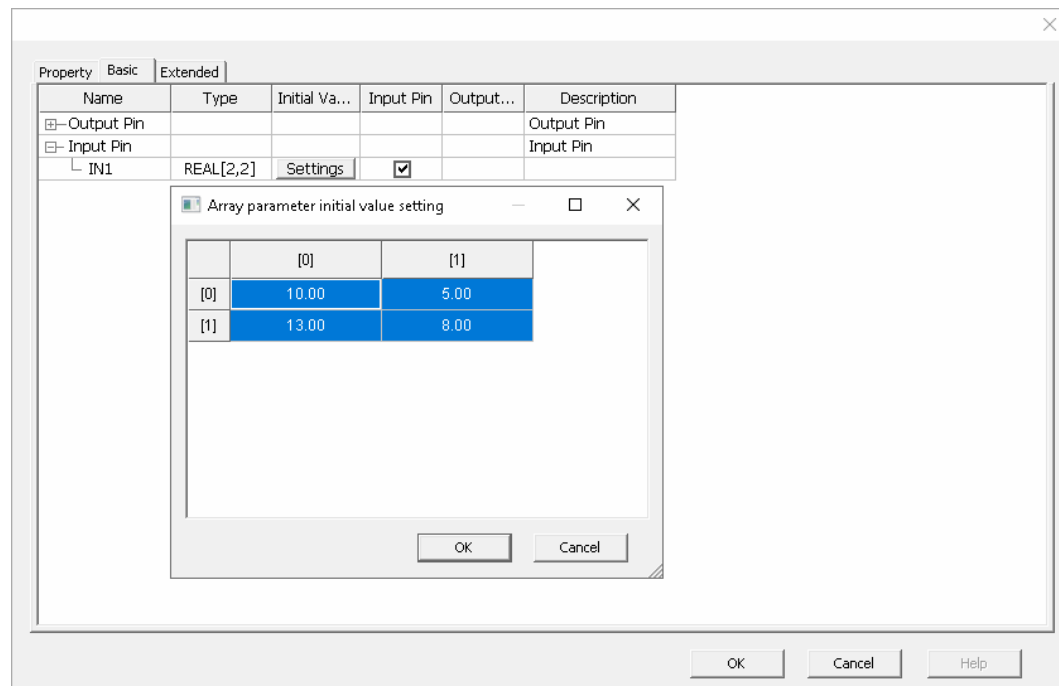

Figure 6-24 Array parameter initial value setting
- Initial values of function block parameters can be set on the basis of default values. As shown in the “Extended” tab in Figure 6-24. The initial value in the list means the value of each parameter when it is downloaded for the first time.